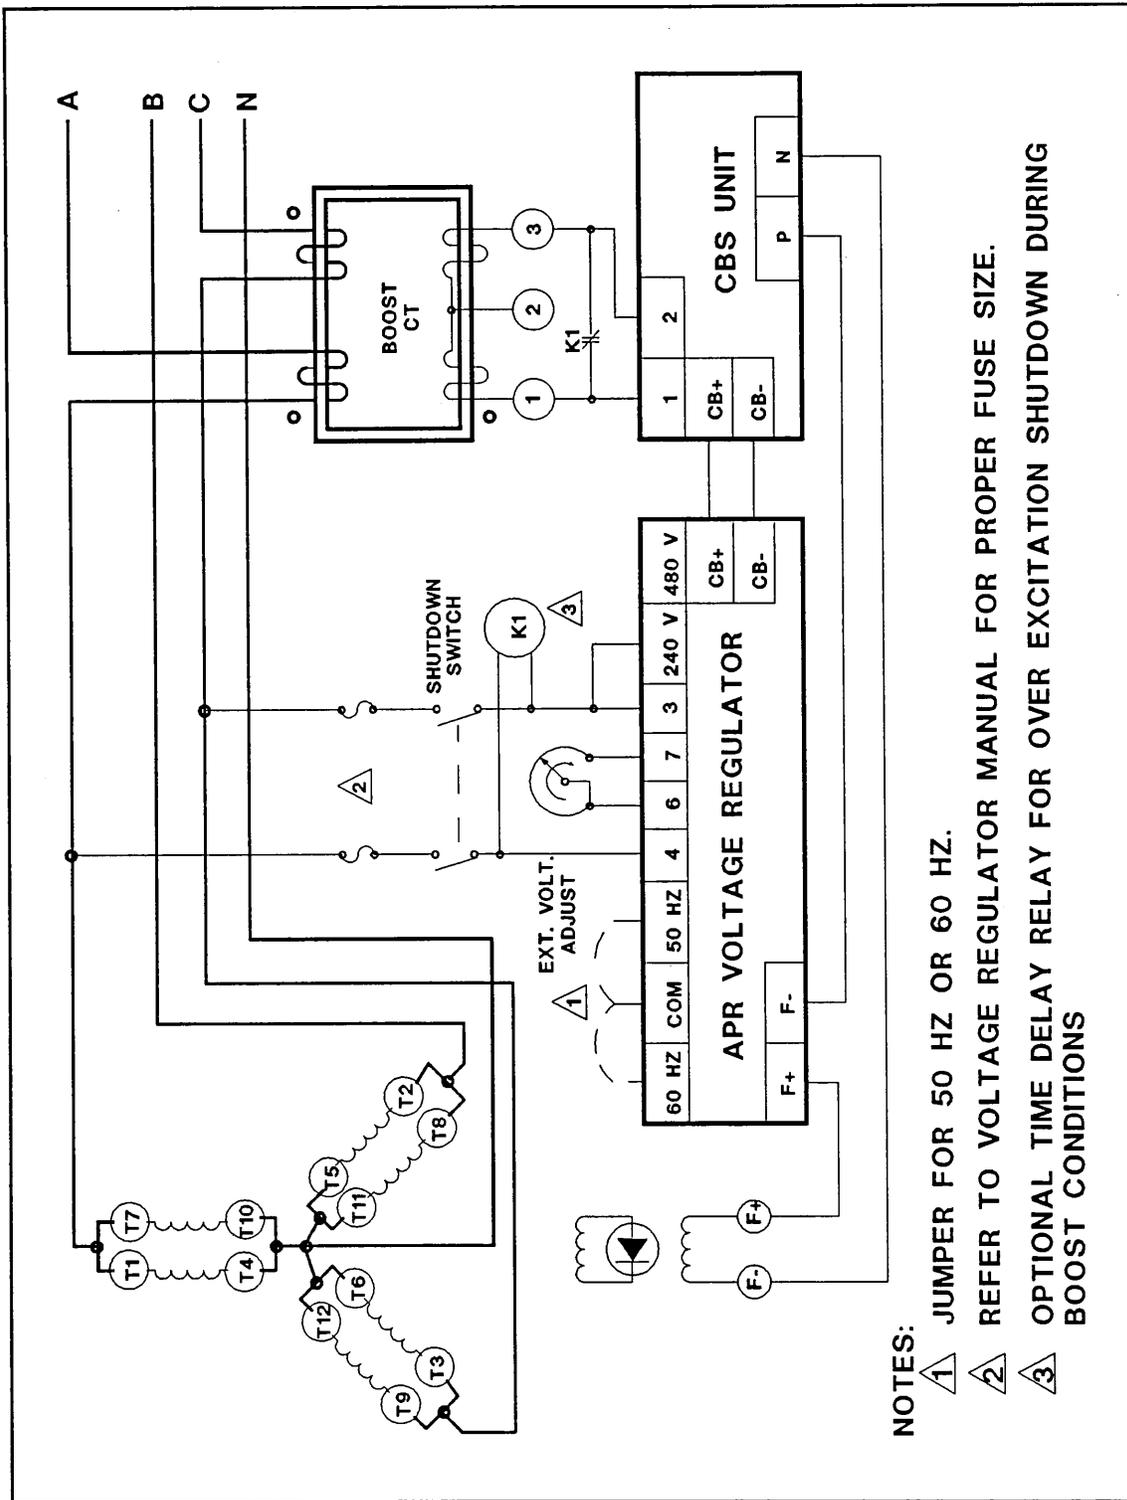

Figure 2-5. CBS Interconnection with 208 to 240 Vac Generators.
- Refer to Figures 2-5 through 2-9 for the interconnection diagrams and connect as shown therein.